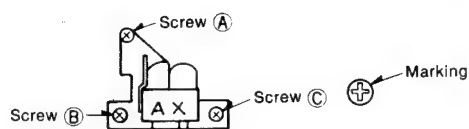

Fig. 7
- Turn screws (A), (B) and (C) completely clockwise.
- Put a point ink-mark on the head of each adjustment screw. (Shown in Fig. 7.)